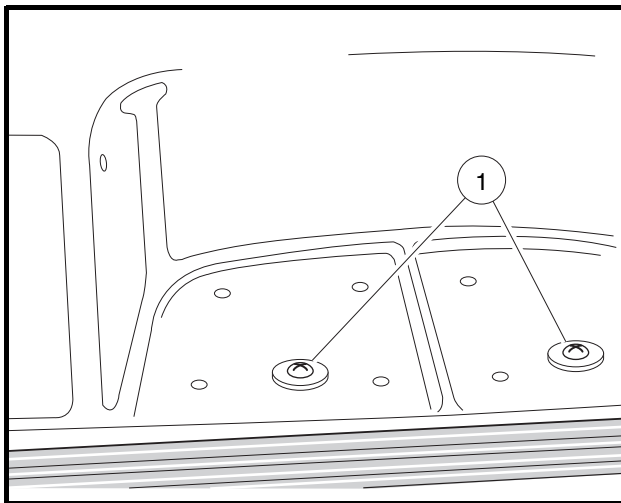

Figure 4-7 Rear Body
5. Remove two screws (1), washers and lock nuts located at the rear of the vehicle (**Figure 4-7, Page 4-7**).
- 1.2. Tighten two screws (1) and lock nuts located under rear body to 20 in-lb (2.3 N·m) (**Figure 4-7, Page 4-7**).